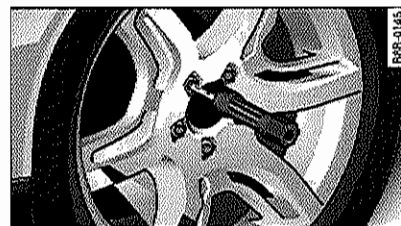

Fig. 233 Changing a wheel: using the screwdriver handle (with the blade removed) to turn the bolts
- Use the **hexagonal socket in the screwdriver handle** to completely remove the topmost wheel bolt and set it aside on a *clean surface* ⇒ *page 306, fig. 233.*